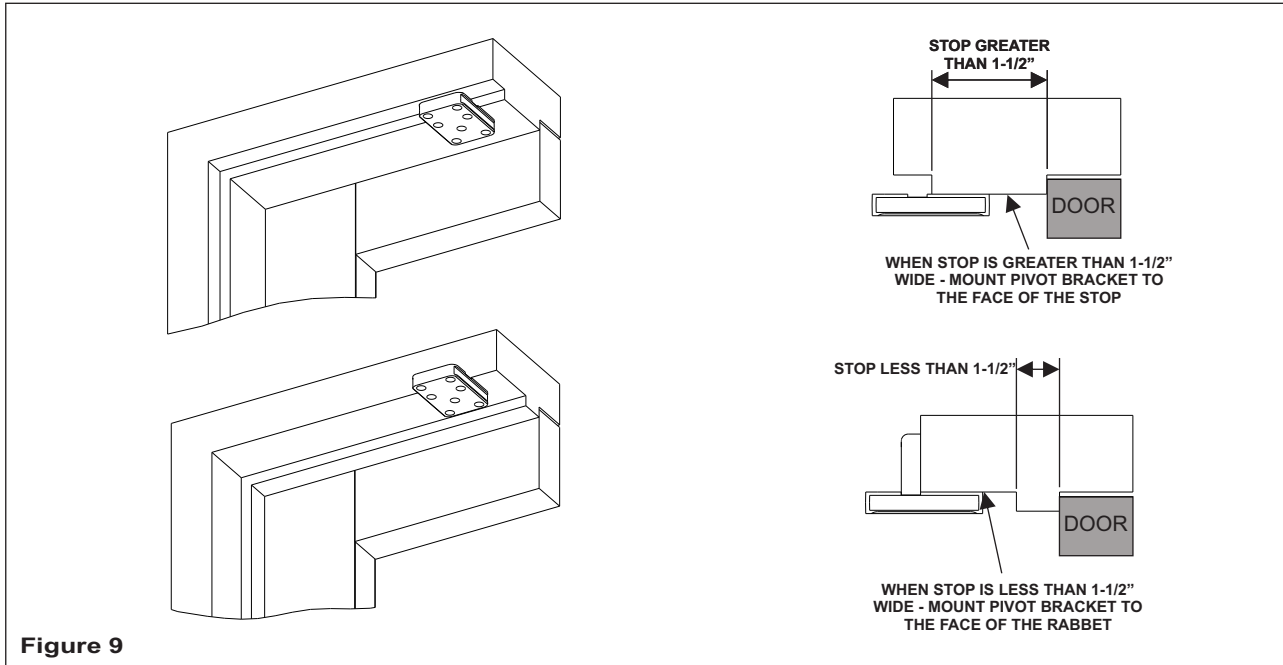

Figure 9
1. Refer to Figure 9, and DETERMINE if the pivot bracket must mount to the face of the stop or the face of the rabbet